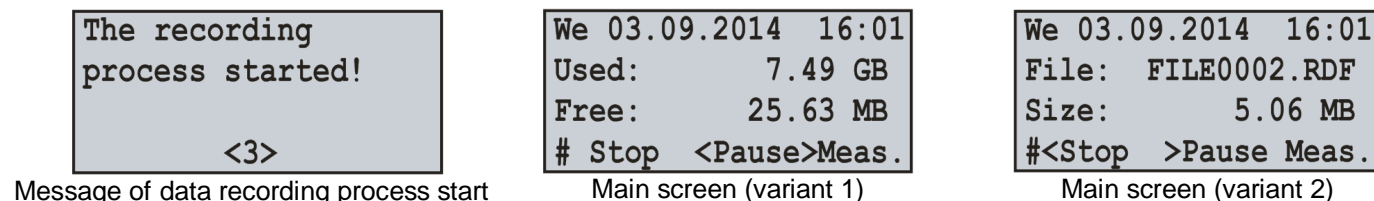

Figure 6.4 – Main menu view after start of data recording process
To start the process of data recording to the memory card it is necessary to select with the buttons ◀ (left) or ▶ (right) the menu item "**Start**", then by pressing the button ■ (enter) to confirm the choice, on the data logger display there will be a message confirming the beginning of the recording process (Fig. 6.4) and LED indicator **RECORDING** will be on (Fig. 1.2 item 7). After 3 seconds the main screen (Fig. 6.4) will be shown on the data logger display.
On the main screen there will be alternatively shown information of the free and occupied space on the memory card (Fig. 6.4 – Main screen (variant 1)), as well as the name and size of the last recorded file (Fig. 6.4 – Main screen (variant 2)).